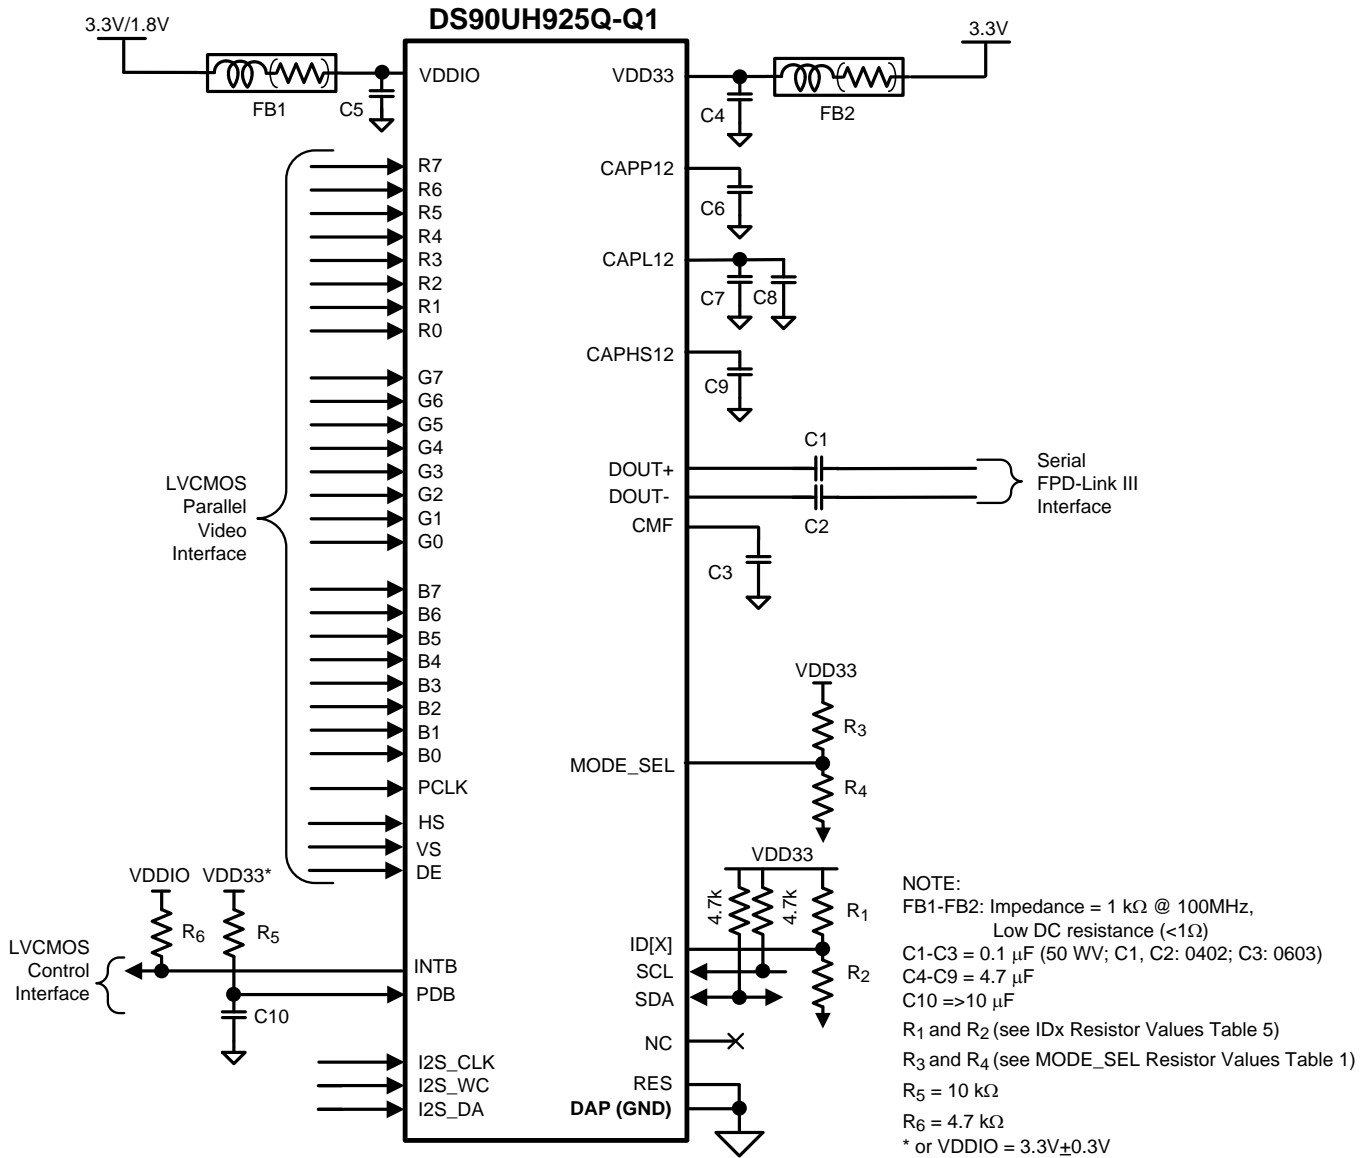

Figure 23. Typical Connection Diagram
Figure 23 shows a typical application of the DS90UH925Q-Q1 serializer for an 85 MHz 24-bit Color Display Application. The CML outputs must have an external 0.1 μF AC coupling capacitor on the high speed serial lines. The serializer has an internal termination. Bypass capacitors are placed near the power supply pins. At a minimum, six (6) 4.7μF capacitors (and two (2) additional 1μF capacitors should be used for local device bypassing. Ferrite beads are placed on the two (2) VDDs (VDD33 and VDDIO) for effective noise suppression. The interface to the graphics source is with 3.3V LVCMOS levels, thus the VDDIO pin is connected to the 3.3 V rail. An RC delay is placed on the PDB signal to delay the enabling of the device until power is stable.